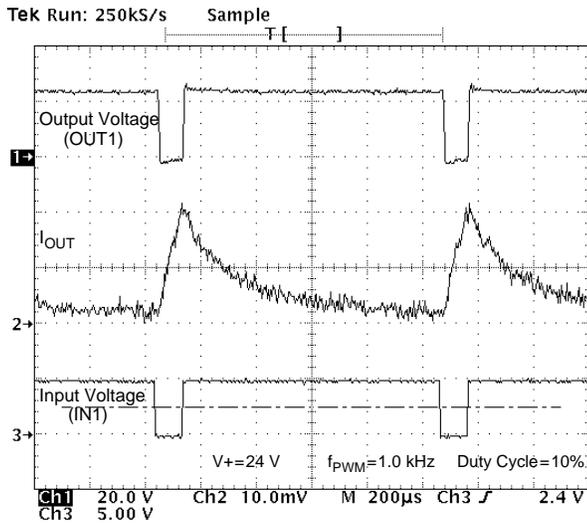

Figure 10. Output Voltage and Current vs. Input Voltage at V+ = 24 V, PWM Frequency of 1.0 kHz, and Duty Cycle of 10%
- The outputs can be PWM controlled from an external source. This is typically done by holding one input high while applying a PWM pulse train to the other input. The maximum PWM frequency obtainable is a compromise between switching losses and switching frequency. Refer to Typical Switching Waveforms, Figures 10 through 17, pp. 10–11.